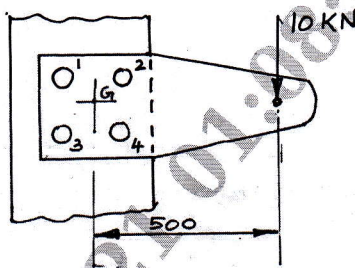

Fig. Q4 (b)
- b. A structural connection shown in Fig. Q4 (b) is subjected to an eccentric force of 10 kN with an eccentricity of 500 mm. The centre distance between bolts 1 and 2 is 200 mm and the centre distance between bolts 1 and 3 is 150 mm. All the bolts are identical. The bolts are made of a material having yield strength in tension of 400 MPa. Take factor of safety as 2.5. Determine the size of the bolts. (12 Marks)